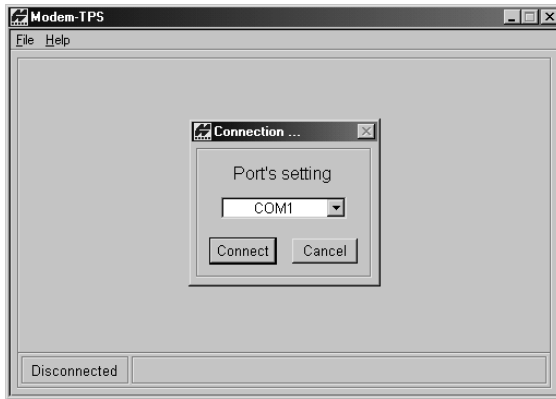

Figure 2-28. Modem-TPS Connection Dialog Box
3. Start Modem-TPS. On the Connection dialog box, select the computer serial port your receiver is connected to and click **Connect** (Figure 2-28).